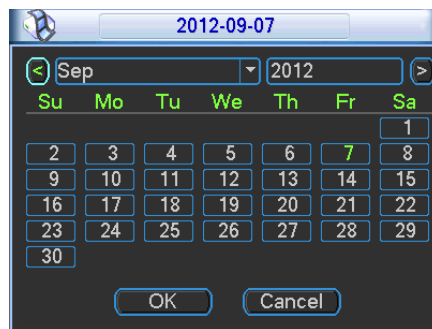

Figure 3-45
- Record types: There are four types: regular, motion detection (MD), Alarm, MD & alarm.
- Holiday setting: Click it you can see an interface shown as in Figure 3-45. Here you can set holiday date. Check the box, it means current channel shall record as your holiday setup. Please go to the Period interface to set the holiday date record setup.